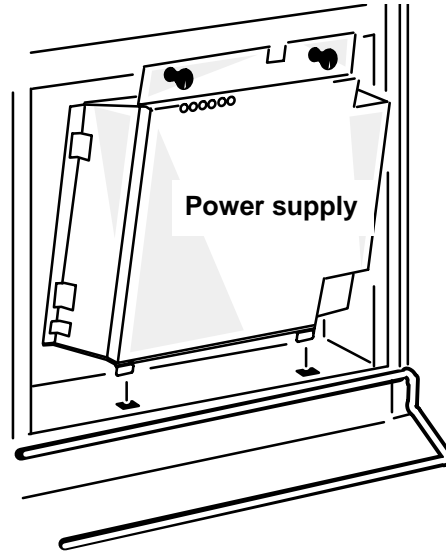

Figure 12-6 Inserting the Power Supply into the Computer Unit
3. Insert the two tabs on the bottom of the power supply into the slots at the base of the computer unit as shown in Figure 12-6.